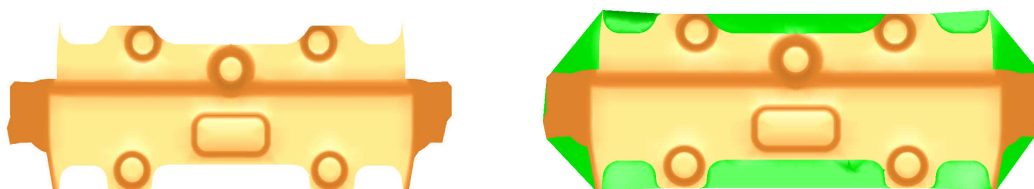

Figure 6.1.37 Roller Example
2. **UNDO** will remove the filled mesh in the gap region and allow the user to go back to the original part. Figure 6.1.37 shows the result of a typical roller operation.